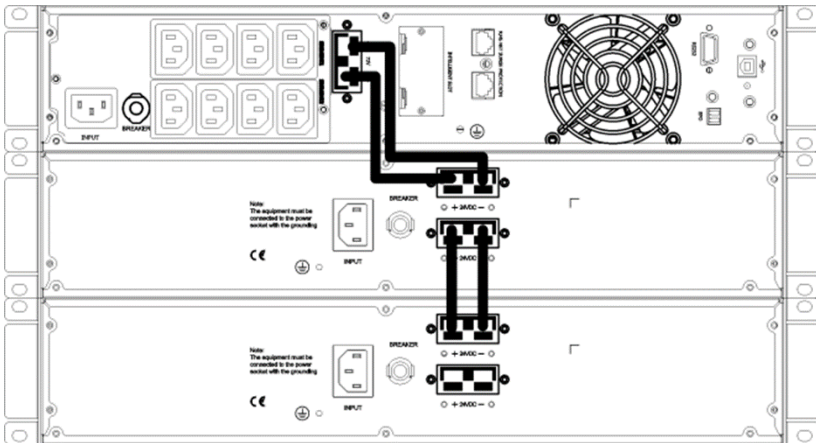

Fig. 1 Battery terminal wiring
1. Plug the EBP cable(s) into the battery connector(s) as shown in Fig. 1